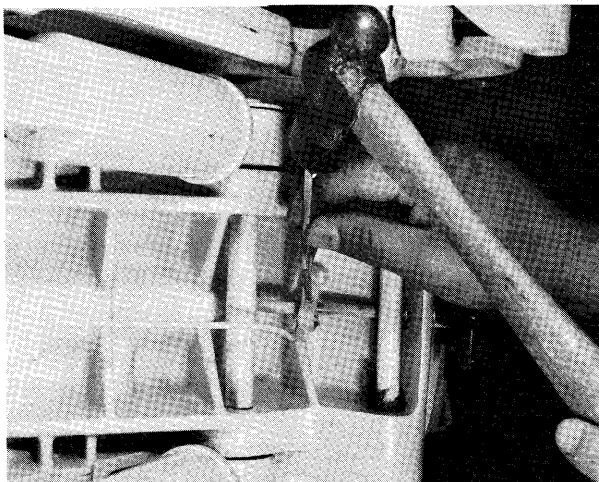

Figure 6—Driving Out Spring Pin
- Remove reverse lock link from reverse lock arm. Drive out spring pin securing reverse lock arm to reverse lock release handle and shaft as shown in figure 6.